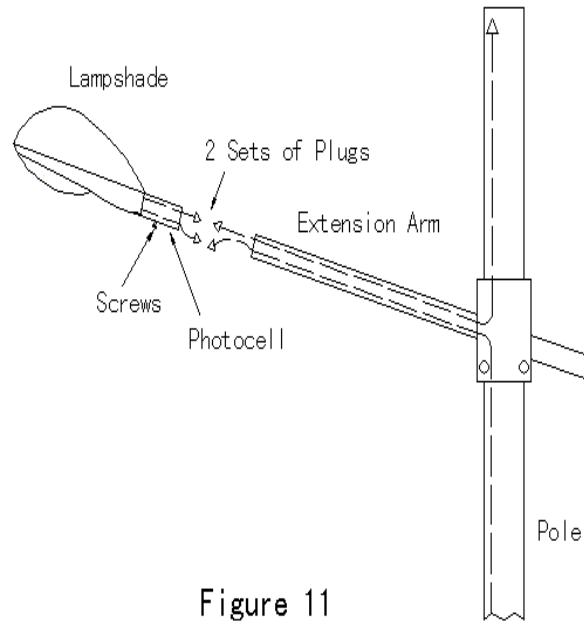

Figure 11
- Plug the 2 sets of the plugs into each other and put them into the Extension Arm. See Figure 11.
- Place the Lampshade into the Extension Arm and screw it tightly. Make sure that the Lampshade faces the ground by a proper angle. See Figure11.